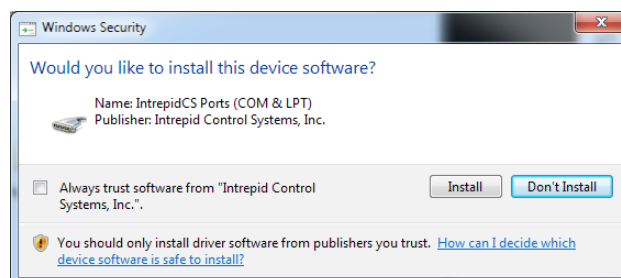

Figure 41: Windows Security Dialog Box.
10. **Install ICS Port Drivers:** Click **Next >** to begin installing the ICS port drivers. If you see a Windows dialog like the one in Figure 41, click **Install** to authorize installation.